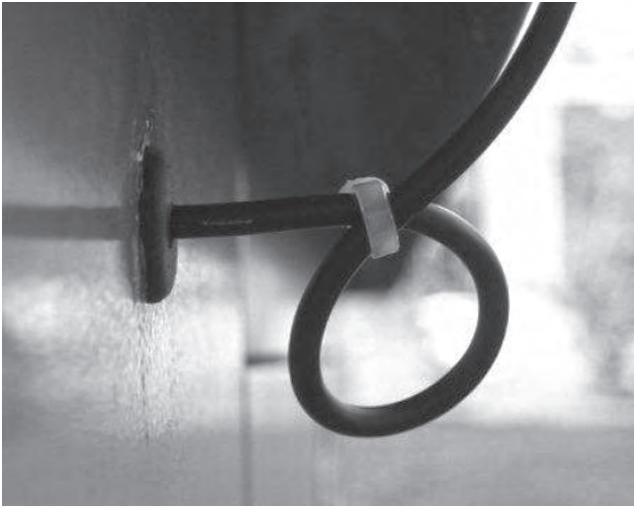

Figure 2
- On the outside of the enclosure, loop and secure the antenna cable with a wire tie (Figure 2) to help prevent water from entering the unit.